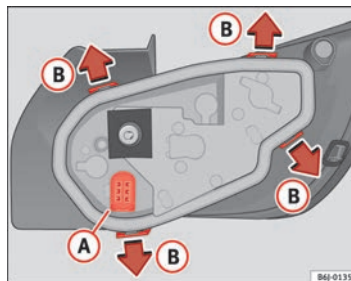

Fig. 163 Changing bulbs on tail lights
- Remove the bulb holder, separating it from the casing. To do this, press tabs (B) in the direction of the arrows ⇒ Fig. 163. ▶